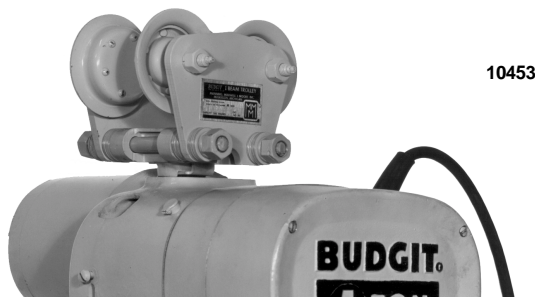
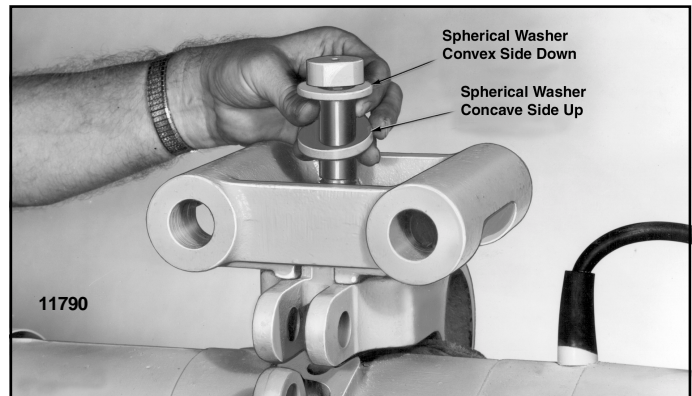

Figure 4 - Cross Mounted
Figure 10
5. Determine whether suspension lug is to be parallel or cross mounted, Figures 4 and 5. Grooves at 90 degrees on the base of the suspension lug can be engaged by the set screw in the locking collar to hold the hoist in the cross or parallel positions. Orient the hoist as required and then tighten the set screw (using a 5/32" hex key) in the locking collar.
2. Determine whether suspension lug is to be cross mounted or parallel mounted. (See Figures 4 and 5). Place lug on hanger in desired position. Insert suspension pin through spherical washers, suspension lug and hanger as shown in Figure 10.